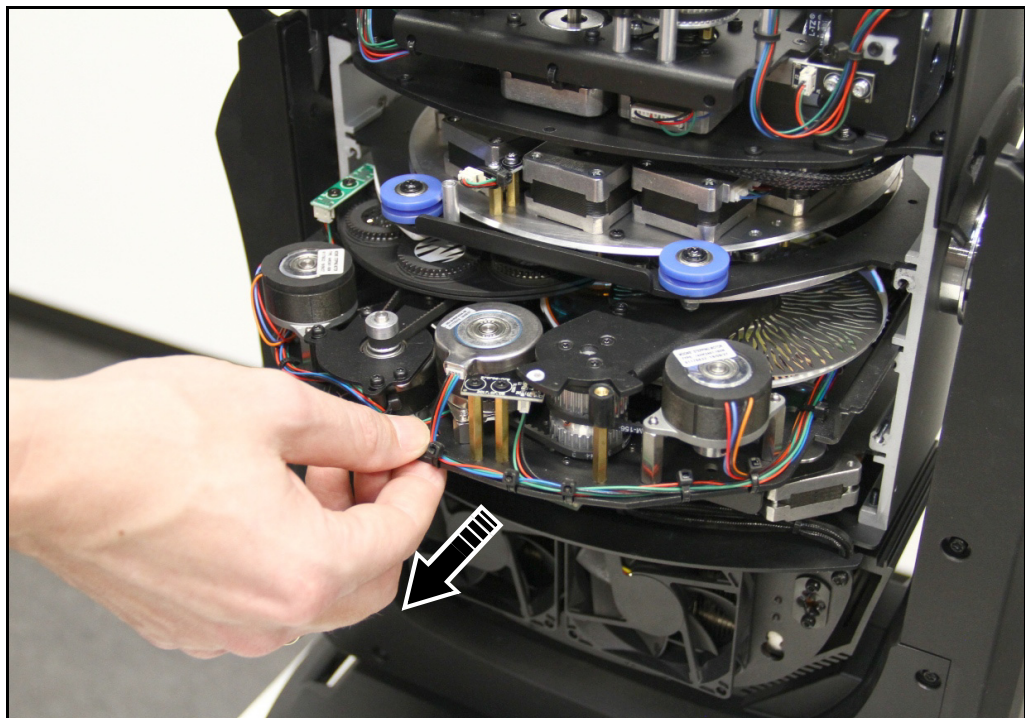

Figure 14: Removing the effects module
6. See Figure 14. Slide the effects module carefully out of the head. If any wires or components become caught, especially on the module above, move them out of the way.